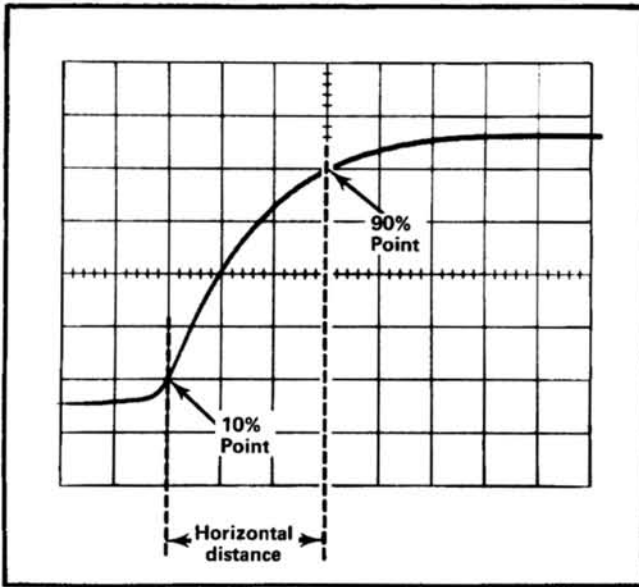

Fig. 2-11. Measuring risetime.
8. Adjust the horizontal POSITION control to move the 10% point of the waveform to the center measurement area. For example, with a five-division display as shown in Fig. 2-11, the 10% point is 0.5 division up from the start of the rising portion.
**Example.** Assume that the horizontal distance between the 10% and 90% points is three divisions (see Fig. 2-11) and the TIME/DIV switch is set to 1 μs with the MAG switch set to X10. Applying the time duration formula to risetime: